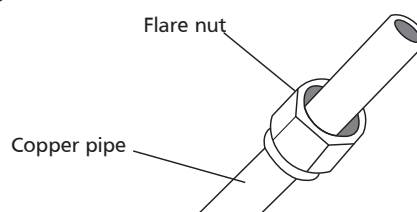

Fig. 7.3
- Place flare nuts on both ends of pipe. Make sure they are facing in the right direction, because you can't put them on or change their direction after flaring. See Fig. 7.3